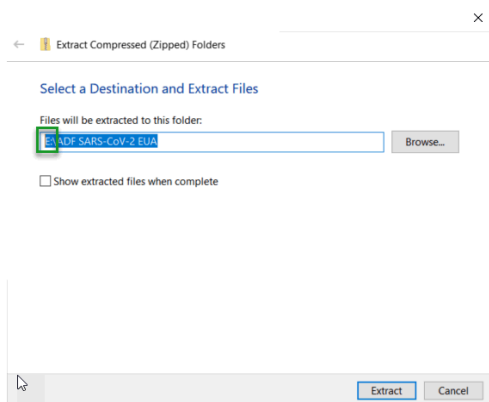

Figure 23. Window with Full Text
- b. A window will appear to extract the content on the USB flash drive. **Note the USB letter (Figure 23).**